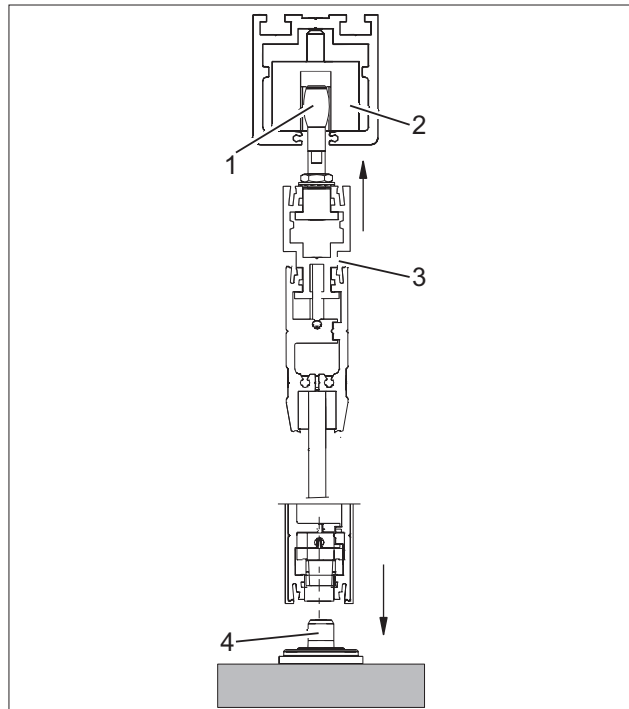

Fig. 24 Inserting the swing panel
- Insert the bolts (Fig. 24/1) into the upper pivot bearing (Fig. 24/2). Place the bottom of the swing panel (Fig. 24/3) on the floor pivot (Fig. 24/4).